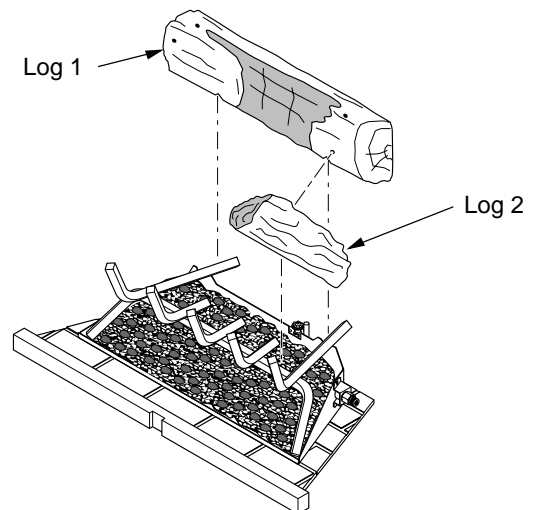

Figure 26 - Installing Logs 1 and 2
1. Place large back log (log 1) onto grate making sure notches rest over grate (see Figure 26).
2. Place log 2 onto front right side of grate. Gently insert peg on back of log 2 into hole on right front of log 1 (see Figure 26).